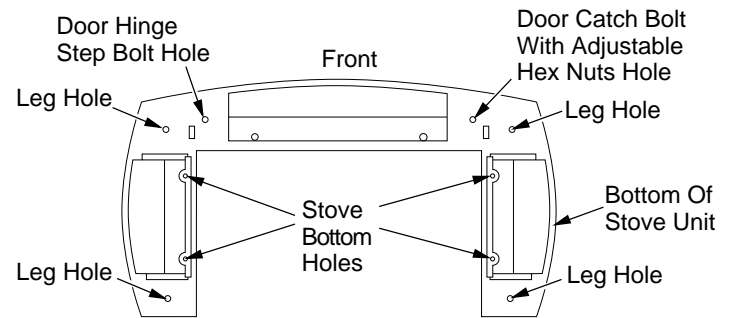
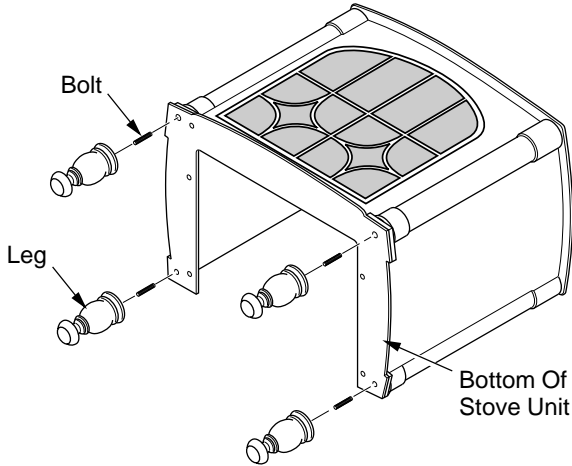
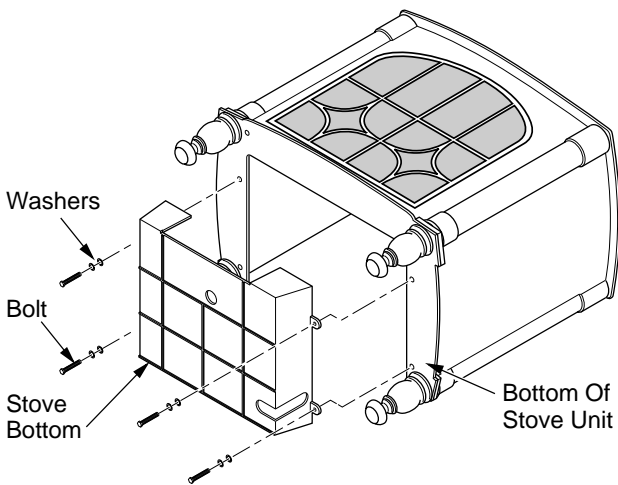
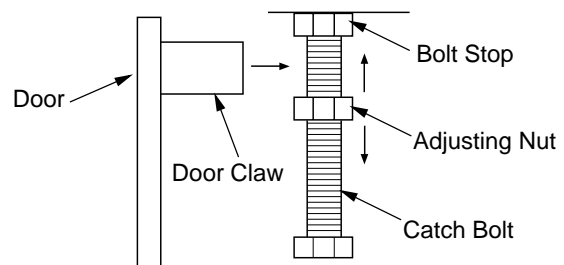

Figure 8 - Locating Threaded Holes for Stove Bottom, Legs, and Door Attachment (Appearance May Vary Depending on Model)
Figure 9 - Attaching Stove Legs
Figure 10 - Attaching Stove Bottom
Figure 12 - Catch Bolt and Door Claw Orientation
- Fasten each leg to stove with four (4) bolts. Use a flat screw driver to tighten bolt to leg. Thread bolt in tapped holes on stove body (see Figure 8 and Figure 9, page 9).
9. Fasten stove bottom to stove with four (4) M6 x 1 - 25mm bolts. Use a flat washer and lock washer with each bolt. Tighten bolts into threaded holes on stove body (see Figure 10 and Figure 8 on page 8). Use an adjustable wrench or a 10mm socket.
11. Install door catch bolt (M8 x 1.25-55mm with two M8 hex nuts) into threaded hole on stove body (see Figure 8, page 8). Use an adjustable wrench or a 12mm socket. The catch bolt has two hex nuts attached to it (see Figure 12). The top nut is a bolt stop and the bottom nut is for door leveling adjustment.
15. Fasten back panel to stove with six (6) M6 x 1 - 20mm bolts and washers. Make sure product identification label is located on the outside in lower left-hand corner.